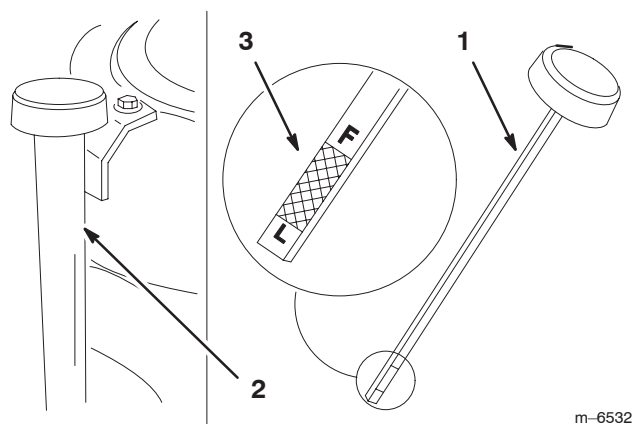

Figure 32
4. Clean around the oil dipstick (Fig. 32) so that dirt cannot fall into the filler hole and damage the engine.
5. Unscrew the oil dipstick and wipe the metal end clean (Fig. 32).
6. Slide the oil dipstick fully into the filler tube. **Do not thread it onto the tube** (Fig. 32).
7. Slowly pour approximately 80% of the specified oil into the filler cap (Fig. 32). Refer to Servicing the Engine Oil on page 29.